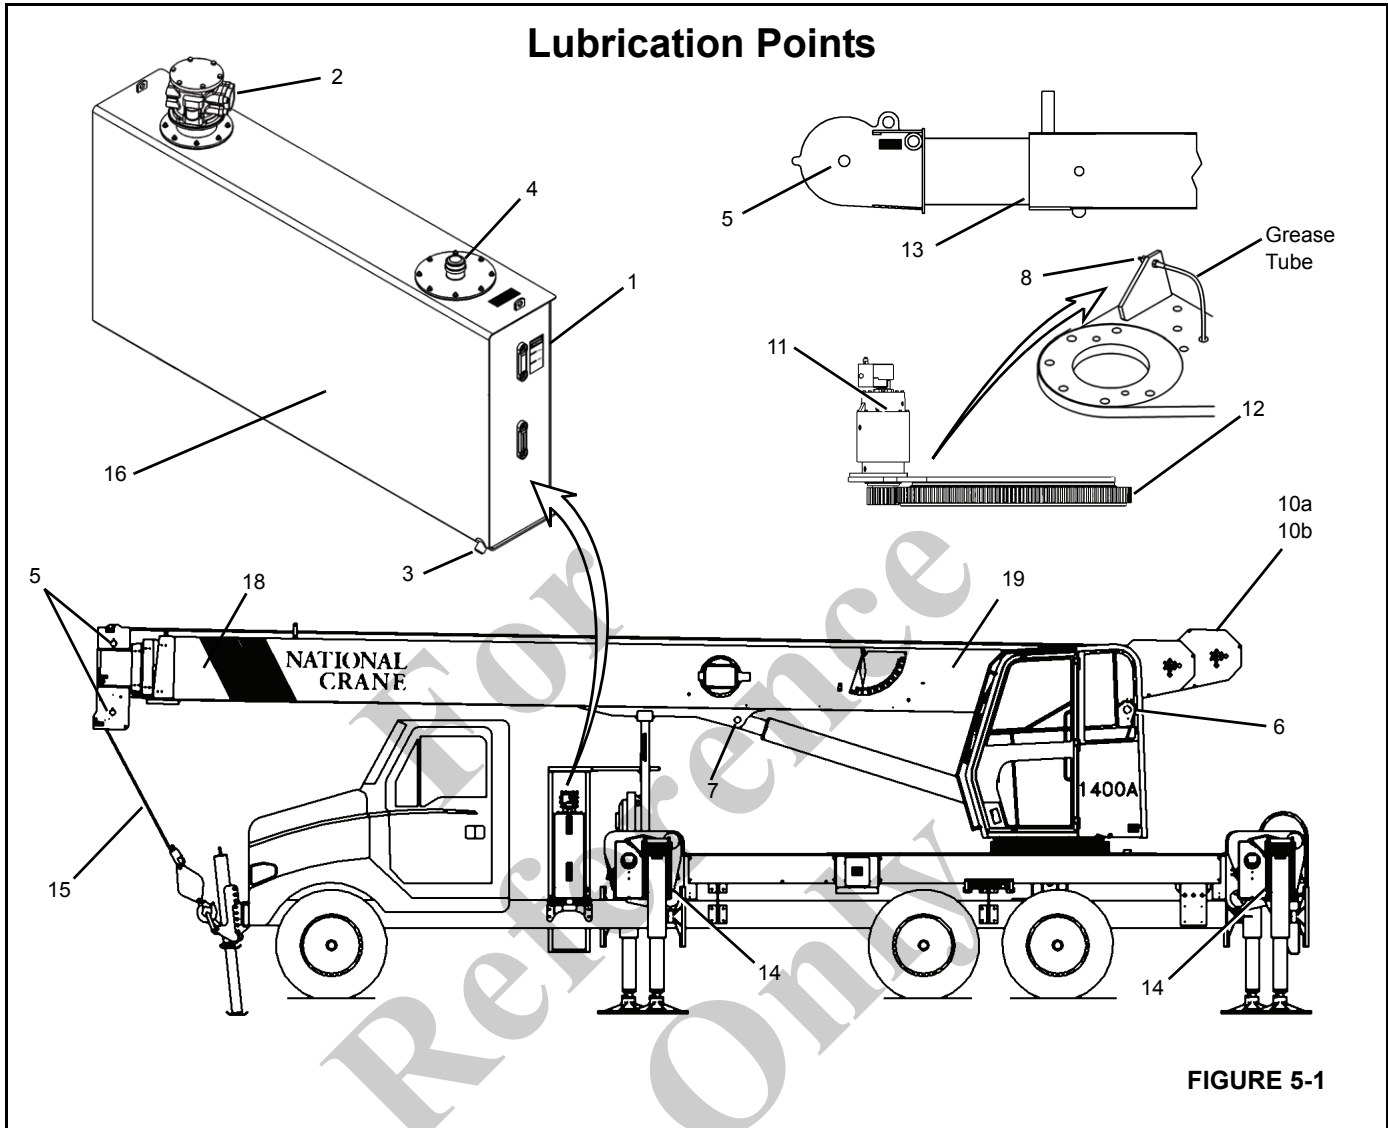

FIGURE 5-1
The following describe the lubrication points and gives the lube type, lube interval, lube amount, and application of each. Each lubrication point is numbered, and this number corresponds to the index number shown on the Lubrication Chart (Figure 5-1). Lube description and symbols are found in tables below.
2. Lubricate the pin for the extend cable sheaves (18) (Figure 5-1) until a small amount of grease extrudes from the pin. From in front of the boom, look back through the sheave case at the pin to determine the amount of grease.